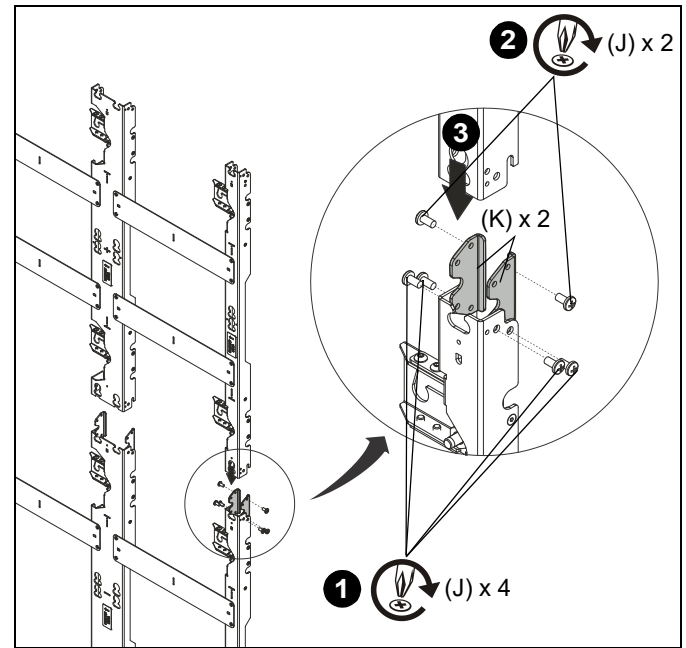
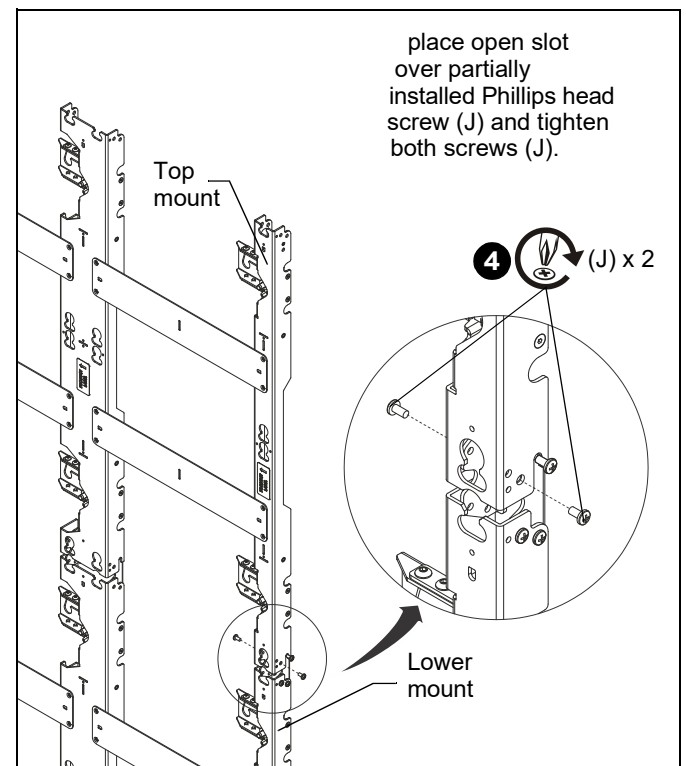

Figure 7
Figure 8
1. Add the vertical connector (K) to the top or bottom of the mount, and fasten with four 1/4-20 x 1/2" Phillips pan head screws (J) per vertical connector (K). (See Figure 7)
2. Partially install two 1/4-20 x 1/2" Phillips pan head screws (J) into top or bottom screw holes on connectors (K). (See Figure 7)
3. Connect another wall mount to the other end of the vertical connector (K) by placing open slot over partially installed screws (J). (See Figure 7) and (See Figure 8)
4. Install two 1/4-20 x 1/2" Phillips pan head machine screws (J) into inside holes on connectors (K). (See Figure 8)
5. Tighten screws partially installed in Step 2 to secure mount to connectors (K). (See Figure 8)
**NOTE:** When connecting a mount to the bottom of an installed mount, the lower mount may be hung by its open slot on the partially installed Phillips head screw (J) before tightening the connection. (See Figure 8)